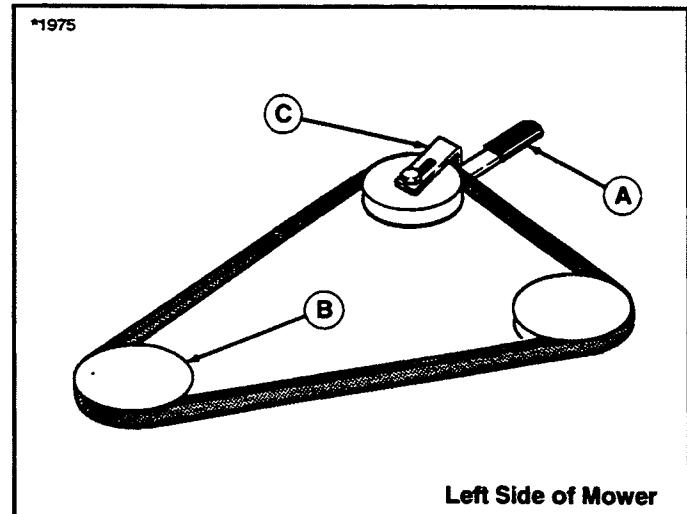

Figure 44. Mower Belt - 44"
3. See figure 44. Push the idler arm (A) away from you to relieve belt tension. Drop belt from the PTO (electric clutch) pulley.
7. See figure 44. Position the bracket belt stop (C) up against arm (A) so that there is a 1/8" gap between pulley and belt stop.